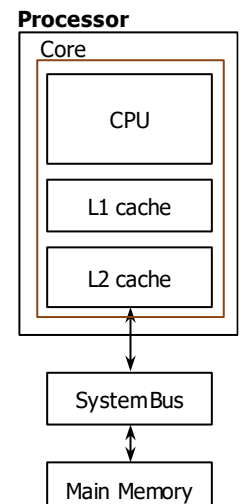

Figure 2. Processor with one core.
- Fig. 2 depicts a processor with a single core. Besides a CPU, a core may include other components like L1 and L2 caches. A basic system layout has a single-core processor; here processor = core.